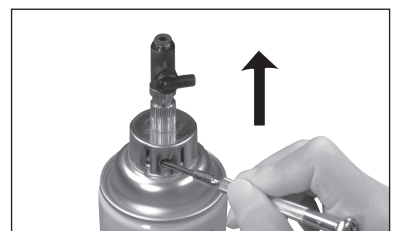

Fig. 15
- (3) Hold PANA SPRAY Plus firmly and turn the screwdriver in the direction of the arrow to remove the ON/OFF Valve. (Fig. 15)